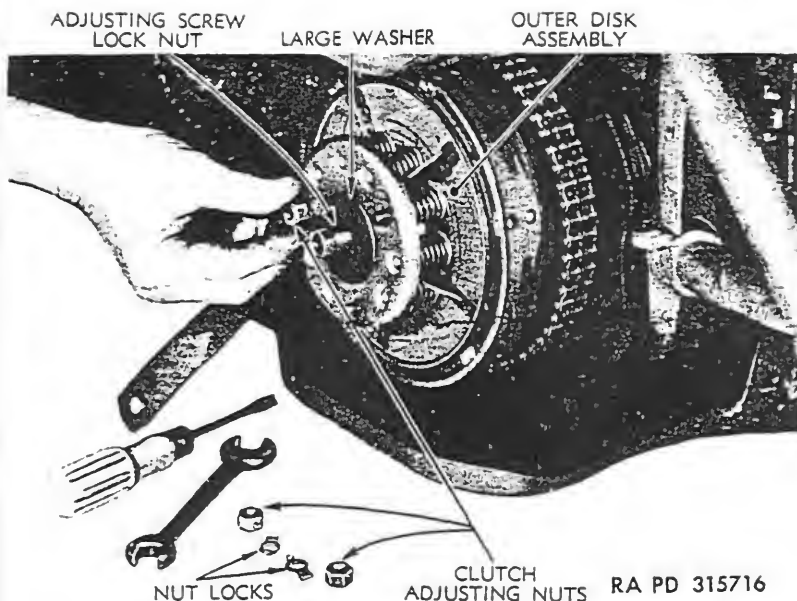
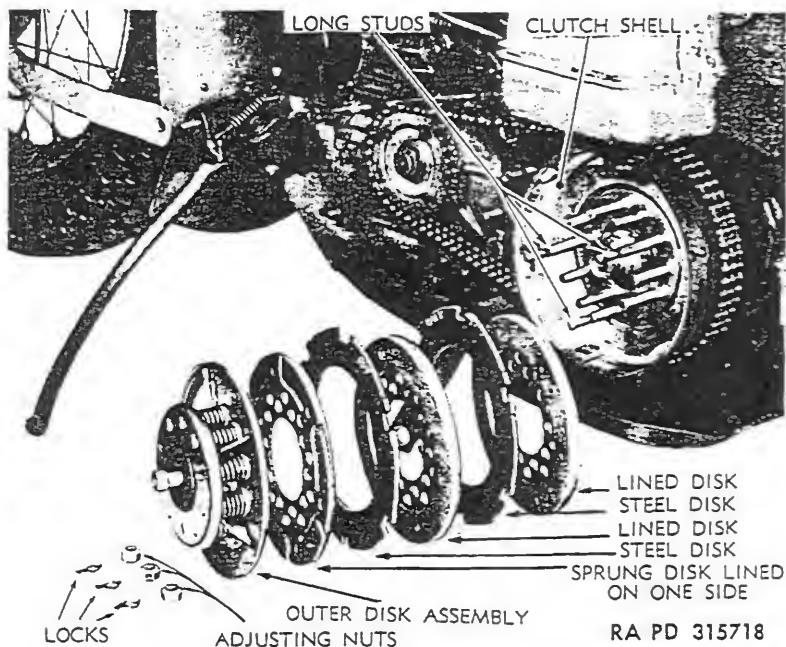

Figure 28—Removing Spring and Outer Disk Assembly
Figure 30—Clutch Disks, Removed
(7) If clutch still does not hold, after correct control and spring tension adjustments have been made, clutch "pack" assembly must be replaced (par. 49).
(8) After making clutch spring tension adjustment, replace outer front chain guard (par. 102).
49. REMOVAL OF DISKS (figs. 28, 29, and 30).
(1) Remove outer front chain guard (par. 102).
(2) Remove push rod adjusting screw lock nut. Place a large flat washer, approximately $\frac{1}{8}$ -inch thick, $1\frac{3}{4}$ -inch in diameter with a $\frac{3}{8}$ -inch center hole, over push rod adjusting screw, and replace adjusting screw lock nut just removed (fig. 28). Tighten adjusting screw lock nut against large washer until the three clutch spring adjusting nuts are free. Bend nut lock down, remove the three adjusting nuts, and withdraw releasing (outer) disk and spring assembly as one unit. Remaining lined and plain steel disks can now be removed from sprocket and clutch shell unit without further disassembly (fig. 30). **NOTE:** At time lined and plain disks are removed from shell, observe relative position of each disk in order of correct assembly.
(1) To remove springs, remove push rod adjusting screw lock nut, freeing spring collar and the 10 springs from the releasing (outer) disk assembly.
(2) Measure springs for free length. Free length of new clutch springs is approximately $1\frac{1}{2}$ inches (they may vary plus or minus $\frac{1}{32}$ inch). Old springs found to be shrunk $\frac{1}{8}$ inch (total free length of spring is $1\frac{3}{8}$ inch or less) must be replaced with new springs. *NOTE: Before replacing springs, select 10 springs that do not vary more than $\frac{1}{32}$ inch to make up the assembly.*
51. INSTALLATION OF DISKS (figs. 30, 29, and 28).